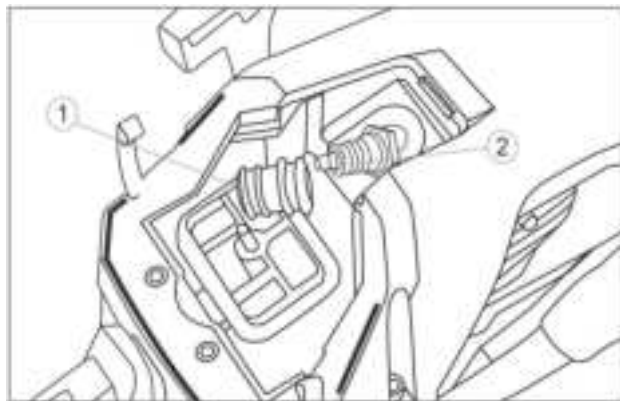

Fig. 26
3. Disconnect the high voltage cable from spark plug 1 (Fig. 26).